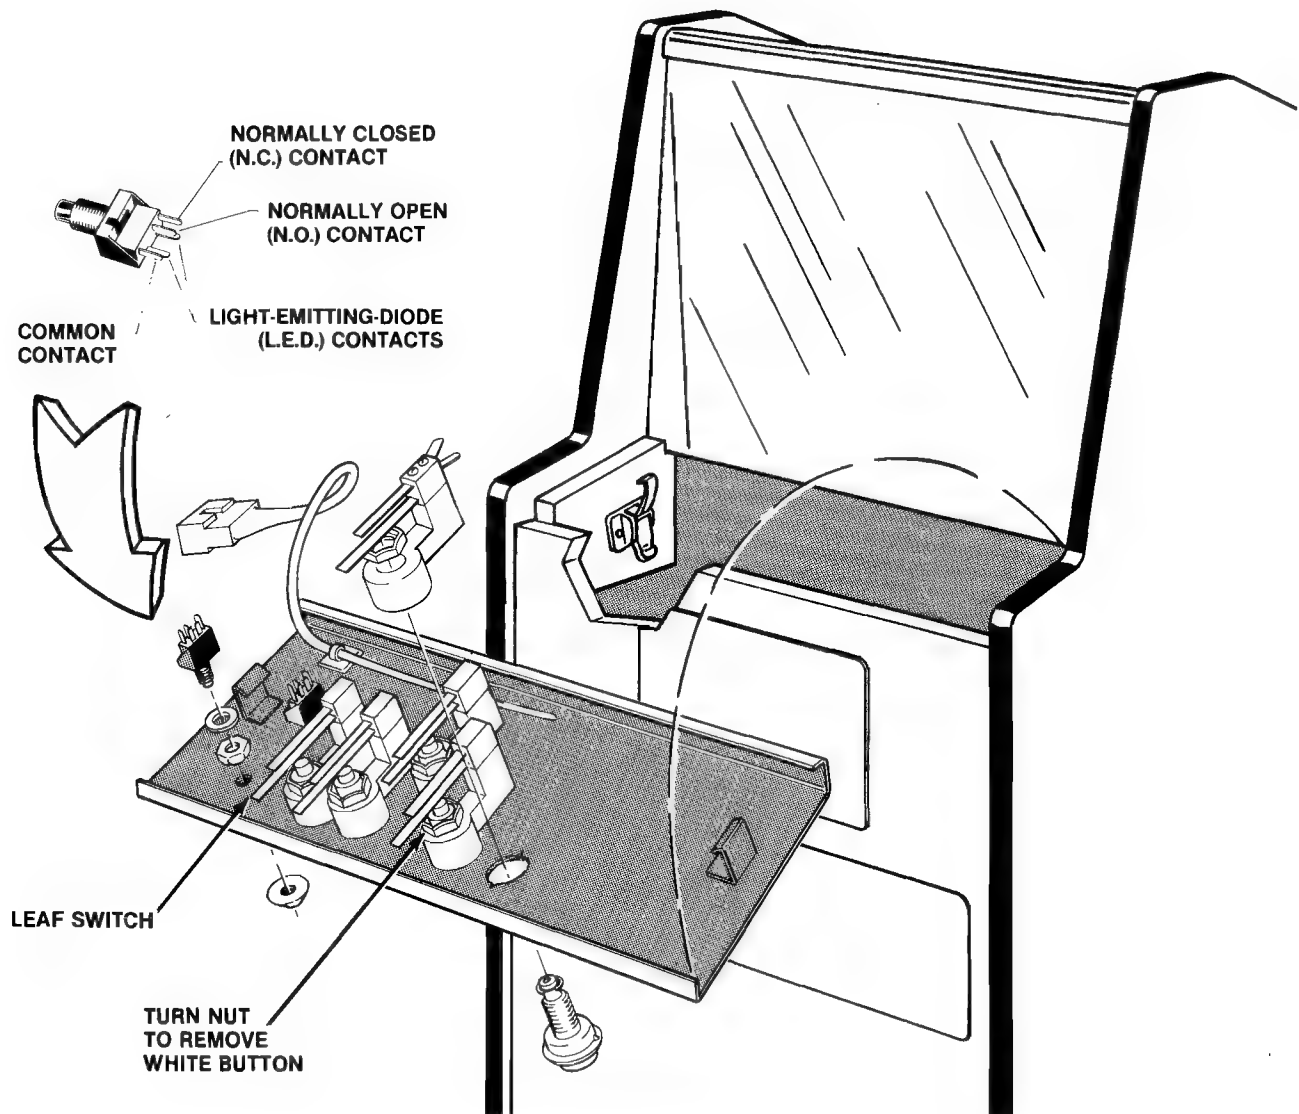

Figure 10 Opening the Control Panel and Replacing Switches
Reach through the coin-door opening and open both luggage-style latches, located on the underside of the control panel (see Figure 10). Push up on the underside of the control panel with one hand. With the other hand lift the top edge of the panel towards you.
To replace any switch, remove both of its screws with a Phillips-head screwdriver—see Figure 10.
The light-emitting diode (LED) switches on the control panel have a very low failure rate. In case a switch should ever be suspect, first test it per the description that follows. To replace the switch, refer to Figure 10.
3. Connect multimeter leads to appropriate LED switch contacts (see Figure 10 for designation of switch contacts).